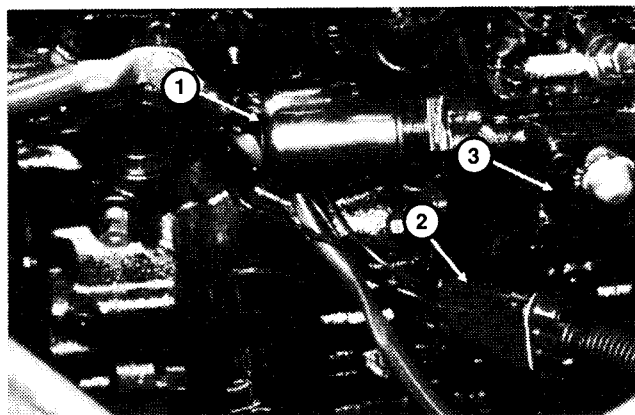

Figure 17
1. Disconnect the wire connector and remove the fuel stop solenoid from the engine (Fig. 17).